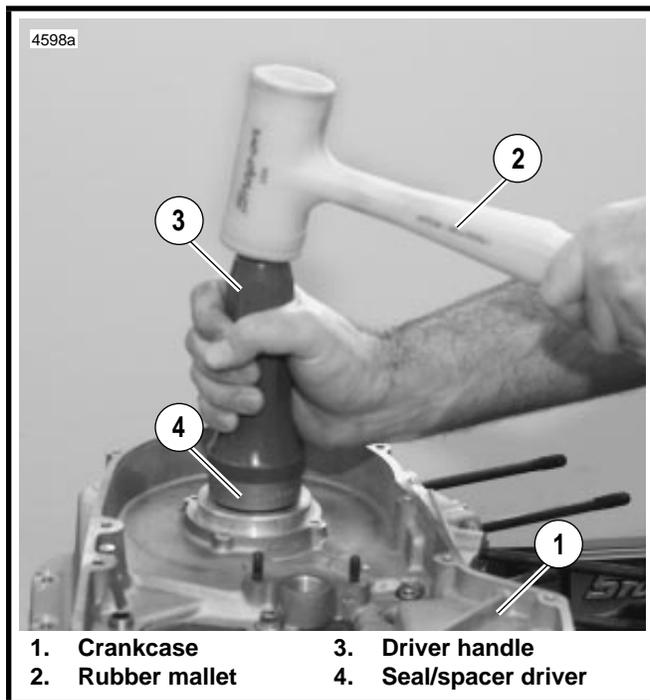

Figure 3-92. Install Bearing Seal/Spacer
13. See Figure 3-92. Center seal/spacer driver over seal, so that the sleeve (smaller OD) seats between seal wall and garter spring. Fit the sleeve of the driver handle into the recess at the top of the seal/spacer driver. Using a rubber or plastic mallet, drive the seal and spacer simultaneously into the bore until the spacer makes solid contact with the Timken bearing cage. Remove the driver handle and seal/spacer driver.